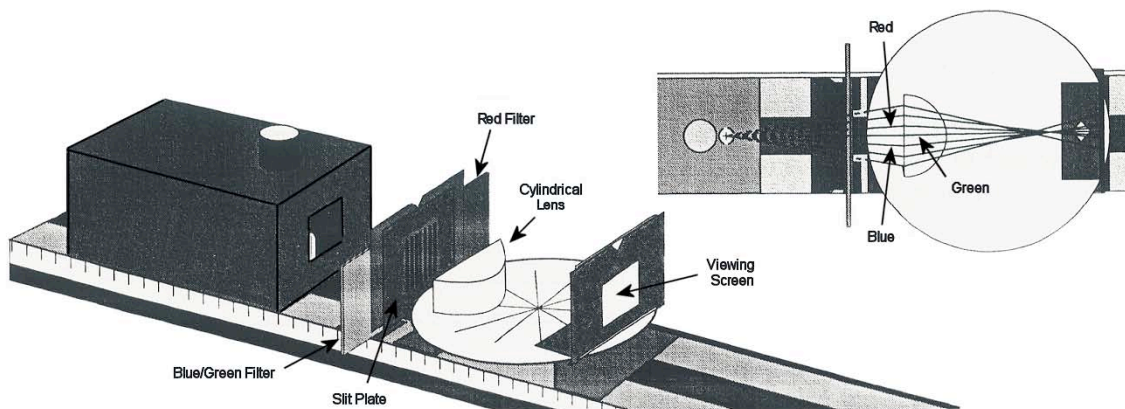

Figure EP09.2: Equipment Setup – Mixing Colored Light
1. Setup the optical bench equipment as shown in Figure EP09.2.